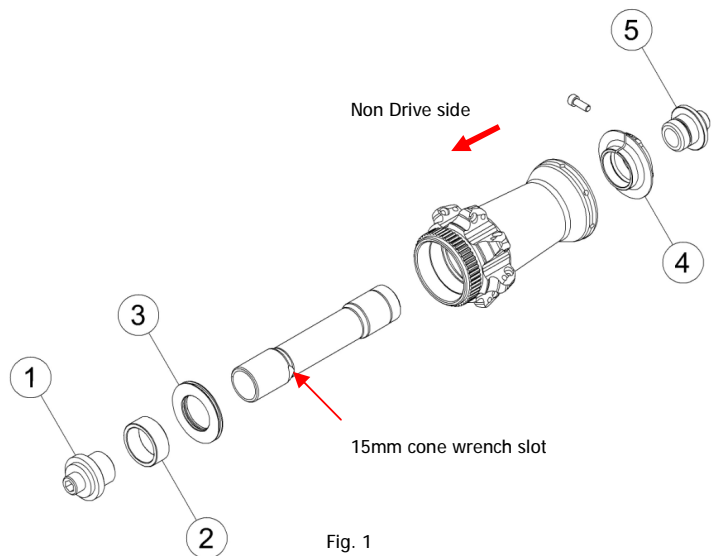

Fig. 1
1. Loosen the M3 PRA adjust collar set screw in the PRA adjustment collar ④ using a 2.5mm Allen Key.
2. Push to remove QR End cap (NDS) ⑤.
3. Unscrew the PRA collar ④ to push QR end cap (NDS) ⑤.
4. Pull Axle (include ① · ② · ③) out of hub shell, and taking note of which direction they face. (Fig.1) .
5. Remove ② · ③.
6. Use a 5mm Allen Key in QR end cap (DS) ① and 15mm cone wrench on the axle to remove QR end cap.